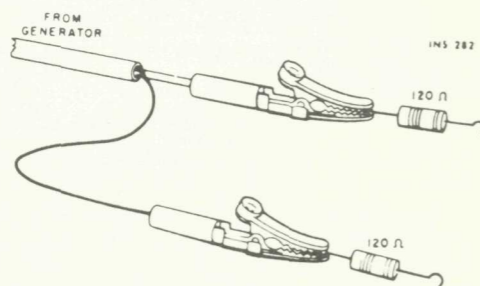

FIGURE 1. CONNECTIONS TO PROVIDE 300-OHM GENERATOR OUTPUT IMPEDENCE. MATCHING RESISTORS REDUCE GENERATOR VOLTAGE BY HALF AT THE ANTENNA TERMINALS.
- Set TUNING dial pointer to zero (0) calibration mark on the logging scale. If the dial pointer does not coincide with the 0 at the extreme end of the knob rotation, reposition the pointer assembly on the dial cord and cement the pointer in place to prevent slippage.
- Connect an RF generator to the NORM antenna terminals. Use a 120-ohm composition resistor in series with each lead from the generator—see Figure 1.
- Align bottom core of Z303, top and bottom cores of Z302, Z301 and Z751 for maximum gain and symmetry—see Figure 1. Repeat alignment.